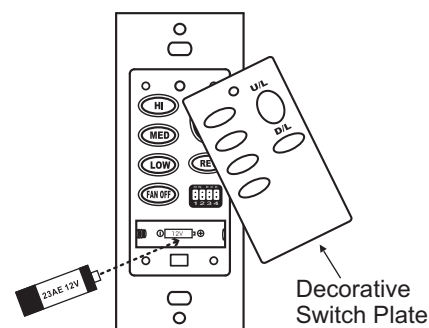

Figure 3
4. Using a dime or your finger nail at the top or bottom, remove the decorative switch plate. Insert the 12 volt battery, noting the correct direction for + and - (Fig. 3).